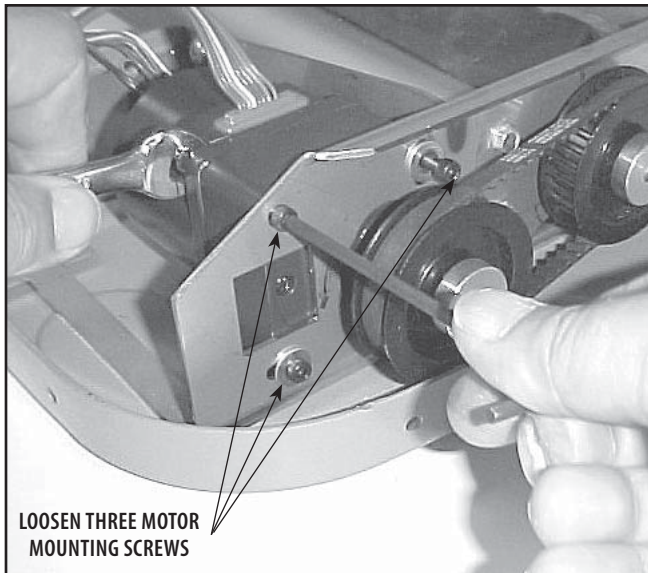

FIGURE 6.4
2. Using a 9/16" Allen wrench loosen the three motor mounting screws. **Refer to Figure 6.4.**